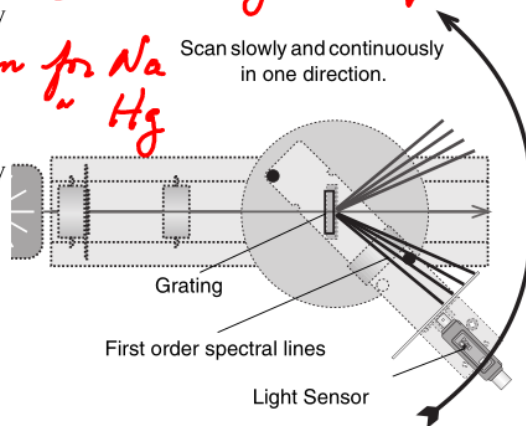

Figure 1.4: Scan the Spectrum
1. Set the GAIN select switch on top of the High Sensitivity Light Sensor to 1. *① We need a good run for Na*
2. Start recording data. *② " " " " " " Hg*
3. Push on the threaded post under the light sensor to slowly and continuously scan the spectrum in one direction. Scan all the way through the first order spectral lines on one side of the central ray, through the central ray itself, and all the way through the first order spectral lines on the other side of the central ray (Fig. 1.4).